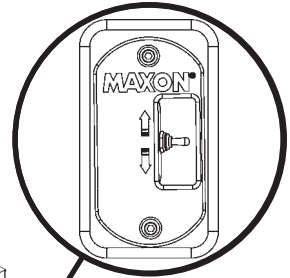

FIG. 12-2A
Toggle switch (FIG. 12-2A) on RH runner lets operator raise (UP) and lower (DOWN) the platform (FIG. 12-2) only. Switch stays within reach when operator rides platform UP and DOWN.